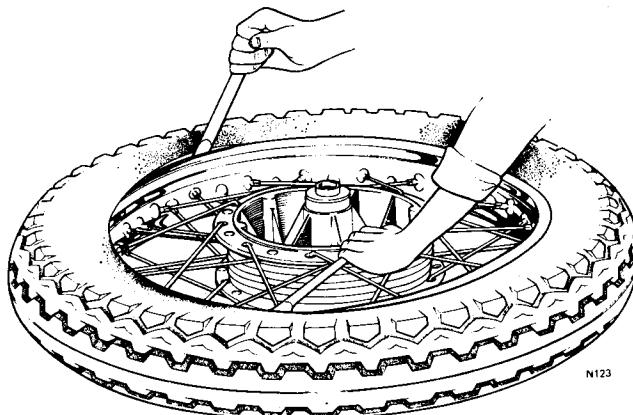

Fig. H19 Two tire levers in use to remove first bead of tire
- 8 Remove the first lever and re-insert at the next stage, continuing round the rim a little at a time (see *Fig. H19*) until the beading can be pulled clear of the rim.
- 9 Remove the first lever and re-insert at the next stage, continuing round the rim a little at a time (see Fig. H19) until the bead can be pulled clear of the rim.